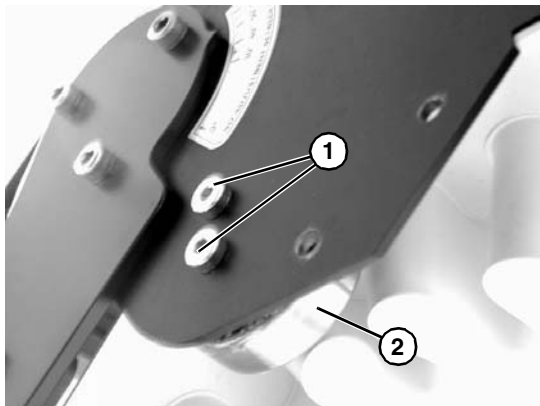

Figure 86
2. Remove screws (**Figure 86, item 1**) and remove roller bearing (**Figure 86, item 2**).